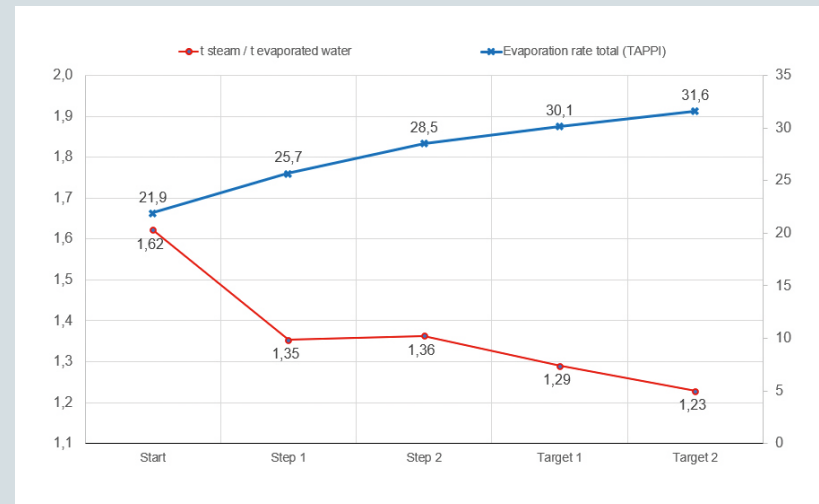

Fig. 8: Development of specific steam consumption and evaporation rate
- reduced specific steam consumption (Fig. 8)